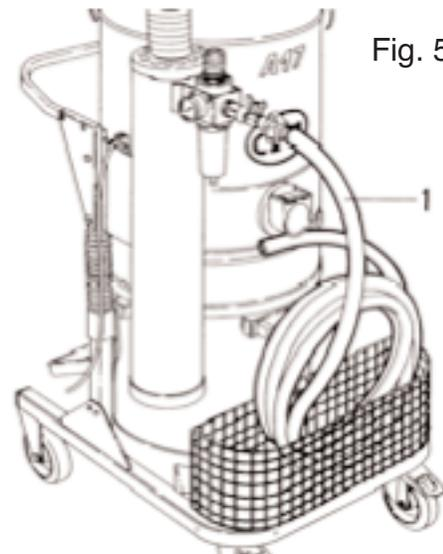

Fig. 5.2.1
5.2 - Air plant connection (fig. 5.2.1)